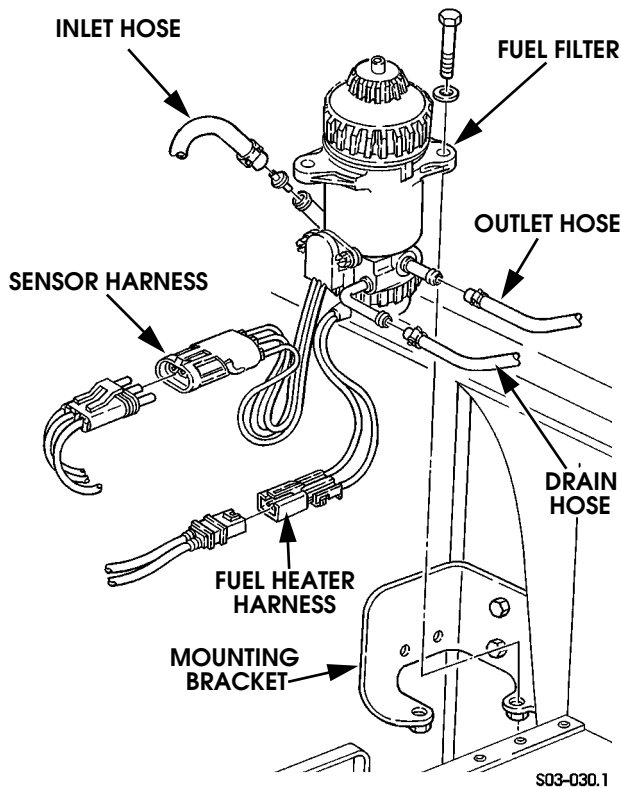

Figure 3-40: Fuel Filter Mounting
1. Disconnect fuel inlet and outlet hoses from filter (Figure 3-40).
1. Install fuel filter on bracket and secure with washers and bolts (Figure 3-40).